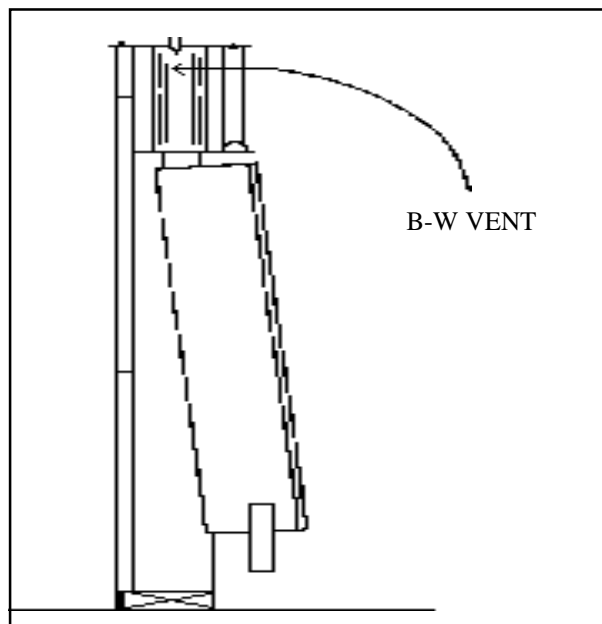

FIGURE 3
STEP 6. To place furnace into position, grasp furnace and lift so furnace flue vent and header plate vent opening engage. Do not use burner or gas control to lift heater. Lift furnace upward and swing bottom into wall opening until legs rest on floor plate and are flush to finished wall. For proper combustion, level heater front to back and side to side. Nail legs to studs. **DO NOT BEND LEGS** as this will put the entire unit into a bind and cause expansion noises (See Figure 3).